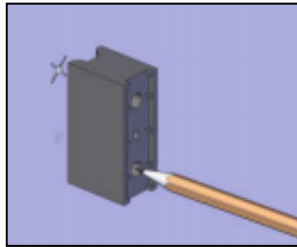

Figure 2
STEP 2: Align the top hole of the plastic bracket with the “X”, and mark the location of the bottom hole. Repeat for the next plastic bracket (Figure 2).